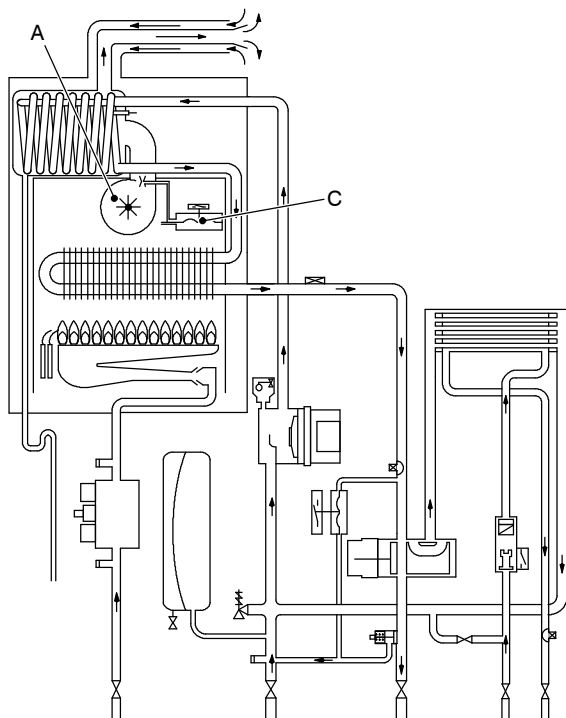
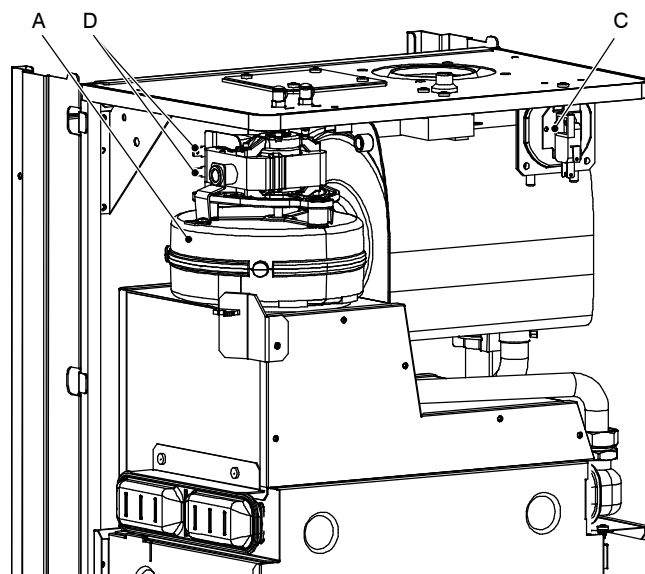
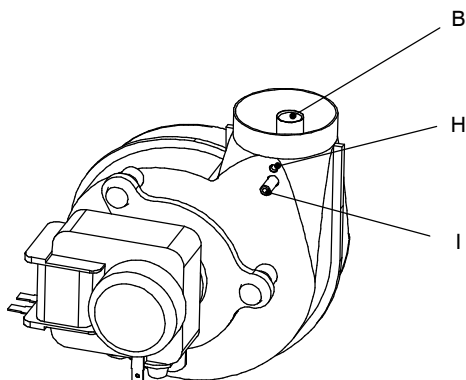

Fig. 68
Fig. 69
Fig. 74
The function of the Fan A (Fig. 68 and Fig. 69) is to force the products of combustion through the condensing heat exchanger to the outside air via the flue system.
Its correct functioning is controlled by means of a system incorporating a built in venturi device (B in Fig. 74) and an Air pressure switch C (Fig. 68 and Fig. 69).
- 2 Disconnect the connectors D (Fig. 69) and measure the electrical resistance of the motor that has to be about:
- 2 Disconnect the connectors *D* and the earth connection *E* (Fig. 69).